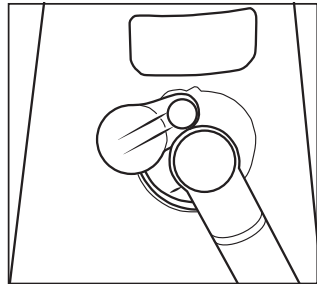

Fig. 2
1. Pull out and turn the lid of the accessory attachment opening. Remove the clog or blockage (Fig. 2).